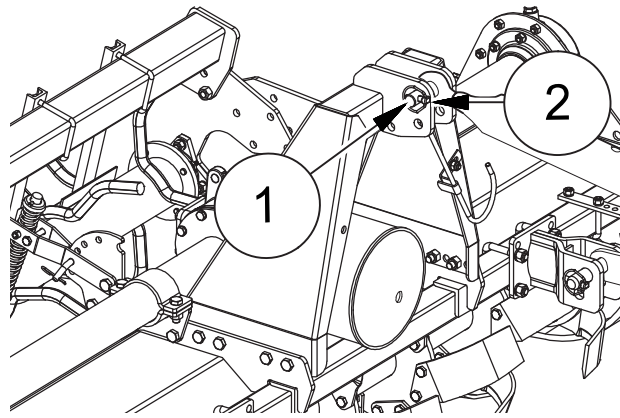

FIG. 22
- Move the tie-rod of the power-lift to the three-point hitch ("Fig. 22"). Set the tie rod so that the machine stays on